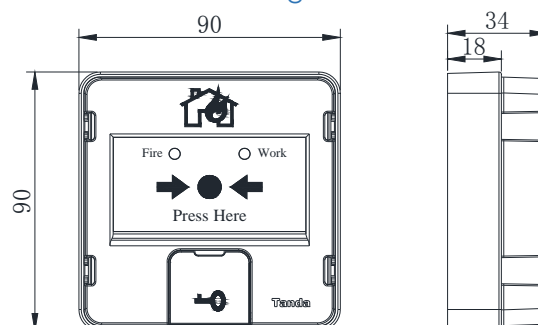

Fig. 1 Outline diagram of manual button
4.1. Outline diagram of manual button as shown in Fig. 1.